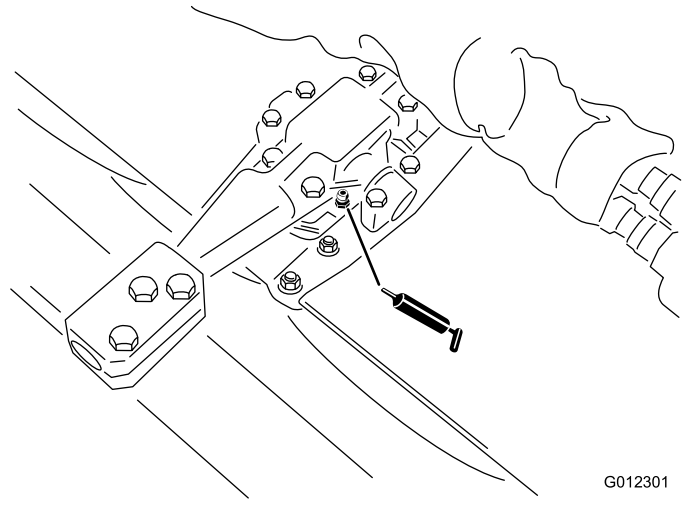

Figure 27
- Floating or fixed head kit pivots (Figure 27)